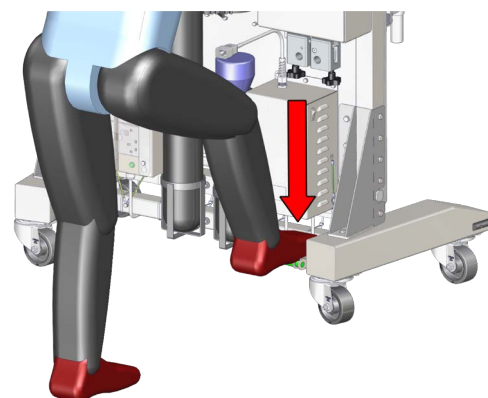

Fig 2.7 Apply Brakes
- If necessary apply brakes by pushing down on pedals with foot (Fig 2.7).